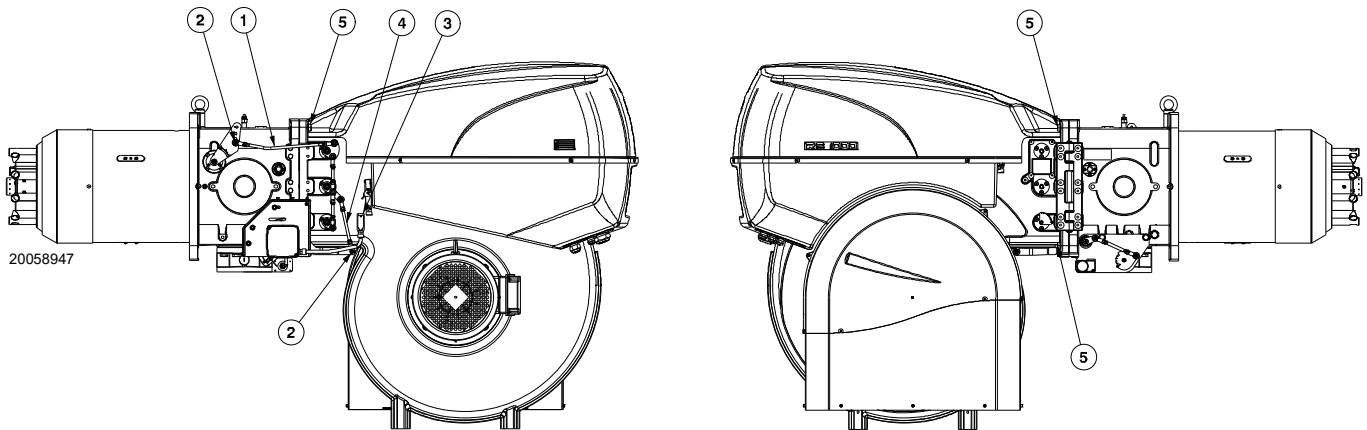

Fig. 34
- Remove the tie-rods 1) and 4)(Fig. 34) of the head movement and damper opening lever, loosening the nuts 2);